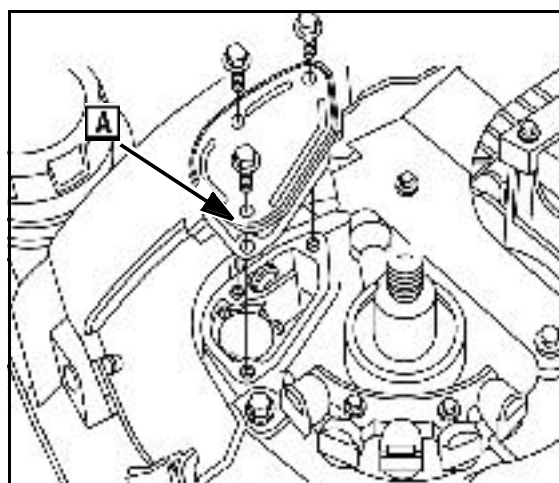

Fig. 24
2. Remove breather cover ([A] Fig. 24) from top of cylinder.